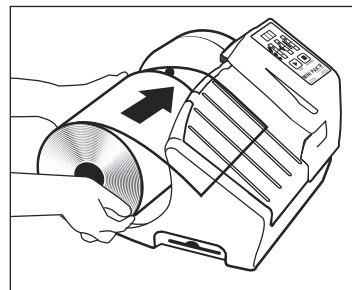

Figure 2
1. Slide film onto film roll holder until it seats firmly. Film feeds from top of roll. (See Figure 2)